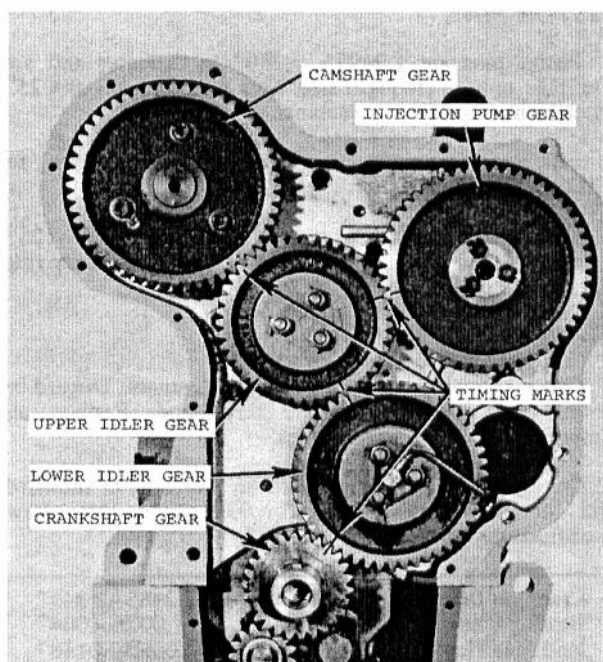

Fig. 15 – Timing Marks Aligned on Timing Gears
All of the timing gears are marked as shown in Fig. 15. These marks must align when No. 1 piston is at T.D.C. on the compression stroke. (Due to the odd number of teeth on the idler gear, the complete set of timing marks will not align every time No. 1 cylinder is at T.D.C. on compression stroke.)
11. Ensure that all timing marks are aligned, as shown in Fig. 15, and install the retaining plate and nuts.